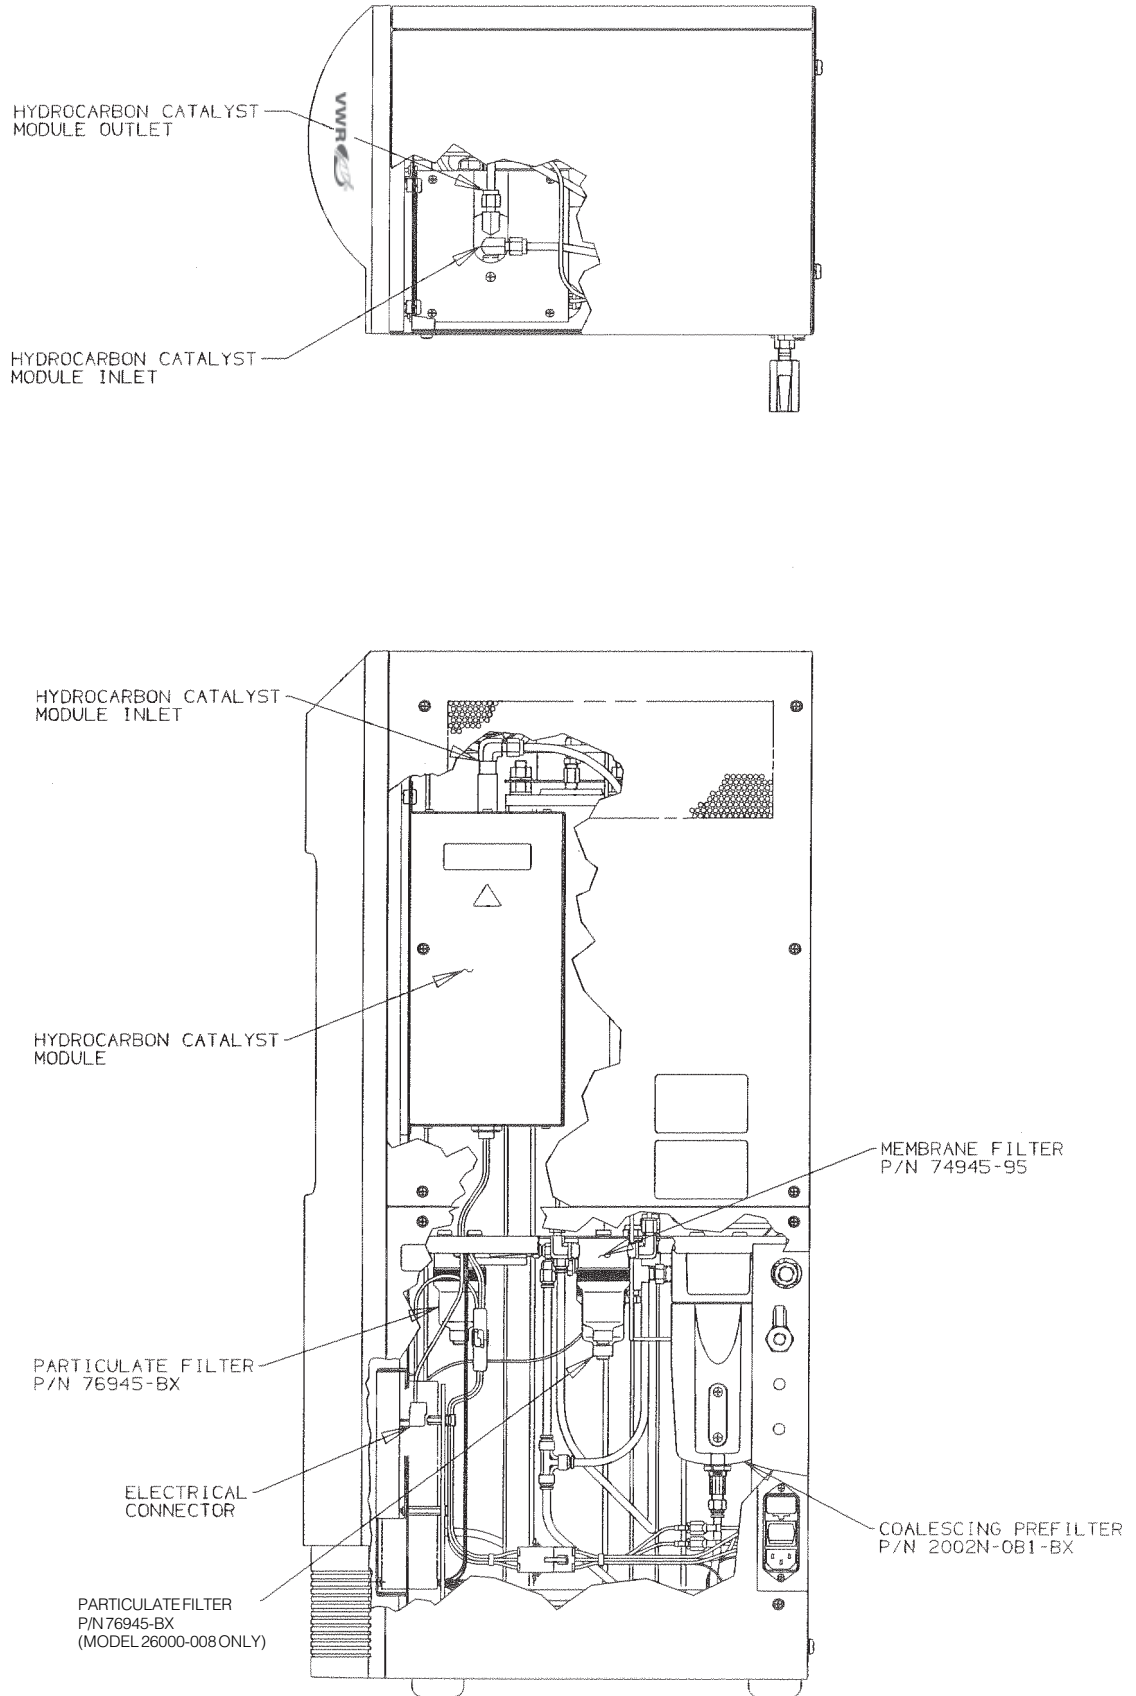

Figure 6 - Maintenance Items
The primary maintenance tasks required by the VWR UHP Nitrogen Generator are changing the filter cartridges in the coalescing prefilter and particulate filters (annually), replacing the final membrane filter cartridge (annually), and replacing the hydrocarbon catalyst module (Model 26000-008 only, 3 years). A summary of the replacement part numbers and recommended service frequency is shown at the end of this Maintenance section. See Figure 6 for the locations of the various maintenance items.
The coalescing and particulate filters and the final membrane filter in the UHP Nitrogen Generator are easily accessible when the lower service panel is removed (see Figure 6). These filters should be changed on an annual basis to maintain efficient operation of the system. The filter cartridge in the coalescing prefilter assembly is removed by loosening the bowl from the filter assembly, and unscrewing the element retainer from the base of the cartridge. Insert the new filter cartridge (P/N 100-12-BXE) and reassemble the housing in the reverse order.
- 3 Remove the upper and lower service panels from the 26000-008 (4 Phillips screws) and disconnect the electrical fittings to the hydrocarbon catalyst module at the connectors (see Figure 6).
- 4 Disconnect the two tubing connections to the hydrocarbon catalyst module (see Figure 6) using the wrenches (one as an anchor).